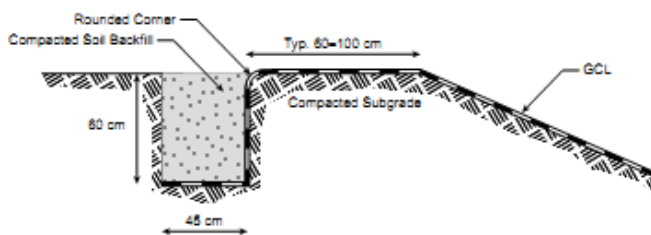

Fig. 8: Typical anchor trench design
2. If a trench is used for anchoring the end of the **Claymat GCL**, soil backfill should be placed in the trench to provide resistance against pull-out. The size and shape of the trench, as well as the appropriate backfill procedures should be in accordance with the project drawings and specifications. Typical dimensions are shown in **Figure 8**.